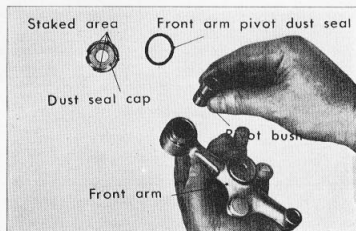

Figure 4-10. Staking the pivot dust seal cap
- b. Remove the pivot dust seal by unlocking the staking and remove the dust seal and pivot collar. (Fig. 4-10)
- (5) The front cushion disassembly can be performed by removing the front cushion lock nut and then removing the front cushion spring.